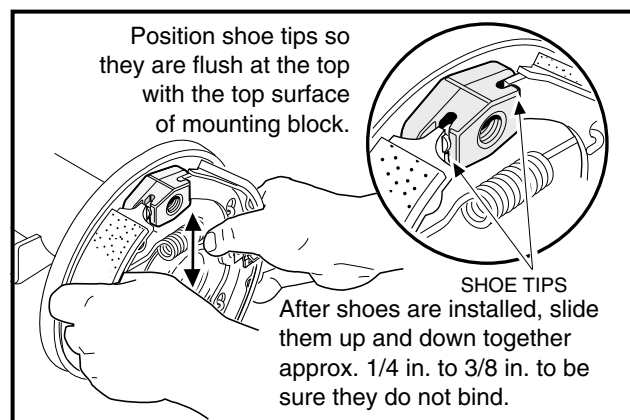

Figure 6-25 Position Shoes
5. After the shoes are installed, move them together up and down and side to side to make sure that they will easily slide approximately 1/4 to 3/8 inch (6.3 to 9.5 mm) without binding. Make sure the shoes are positioned vertically so the tips of the shoes are positioned flush with the top surface of the shoe mounting blocks as shown (**Figure 6-25, Page 6-10**).